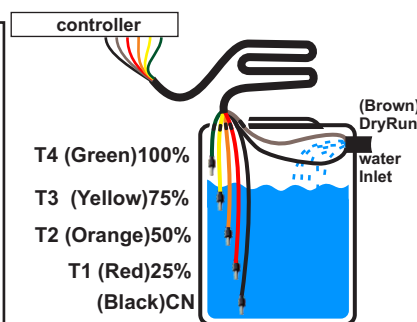
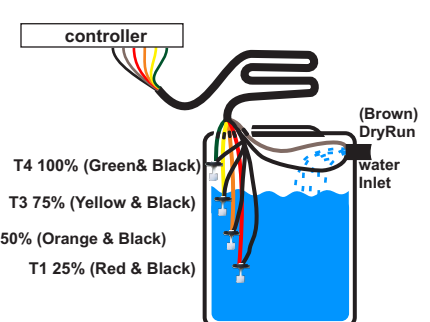

Figure4: CT sensor connection
Figure5: MF sensor connection
Step 5: Lay 6 core cable between controller and tank. Join one end of the 6 core cable to sensor line connector of controller as per label. In tank side, **Contact type sensor connection:** Take the sensors and cut them according to the levels of tank and join them with the 6 core cable as per label coded. (Refer figure. 4) **Magnetic float sensor connections:** These Sensor has 2 wires, Use any one wire in each sensor as common. Other wires left in each can be used for levels. Join them with the 6 core cable as per label coded. (Refer figure. 5).
Step 7: Immerse the Sensors inside the Over Head Tank (OHT) and tape it. Sensors should be in 25%, 50%, 75% and 100% of tank. (Refer figure.4 & 5)